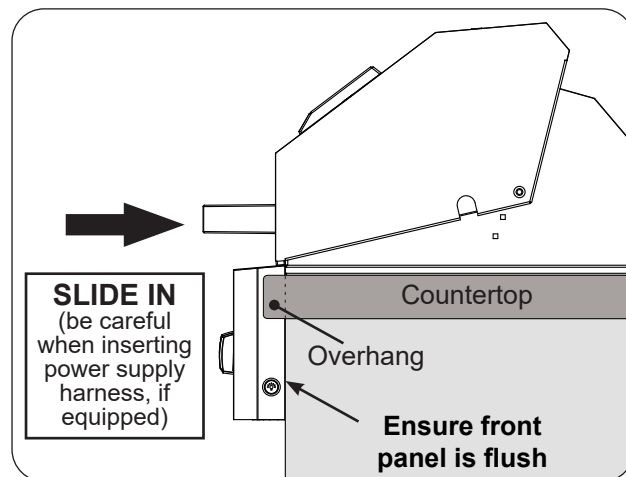

Fig. 27-3 Slide in unit (ensure flush)
- Ensure the unit fully slides in so that the front panel sits flush against the enclosure front wall. See Fig. 27-3 and the Counter Overhang section in ENCLOSURE REQUIREMENTS for details.